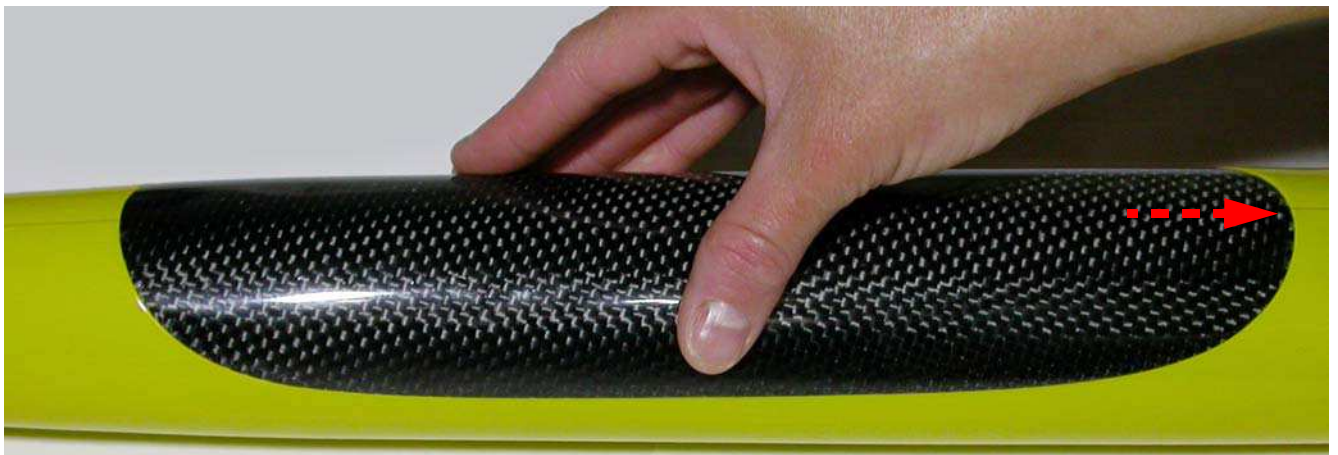

Fig.114: Push the canopy backwards.
- push the canopy in the direction shown in figure 114 up to the complete closing.